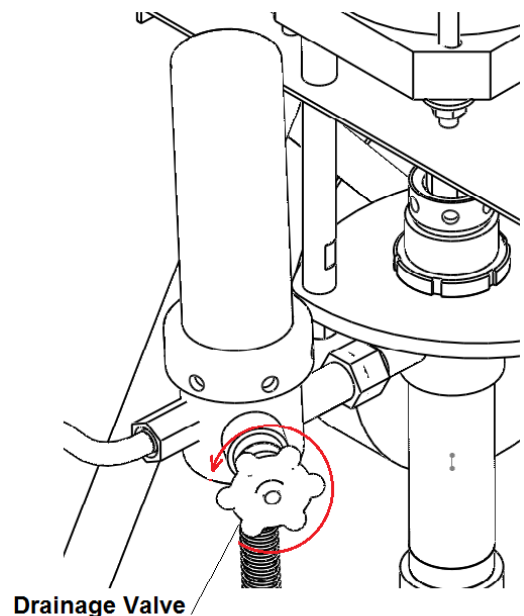

Fig. 3
- Connect the drain pipe to the fluid container and open the drainage valve gently in anti-clockwise rotation (Refer Fig. 3).